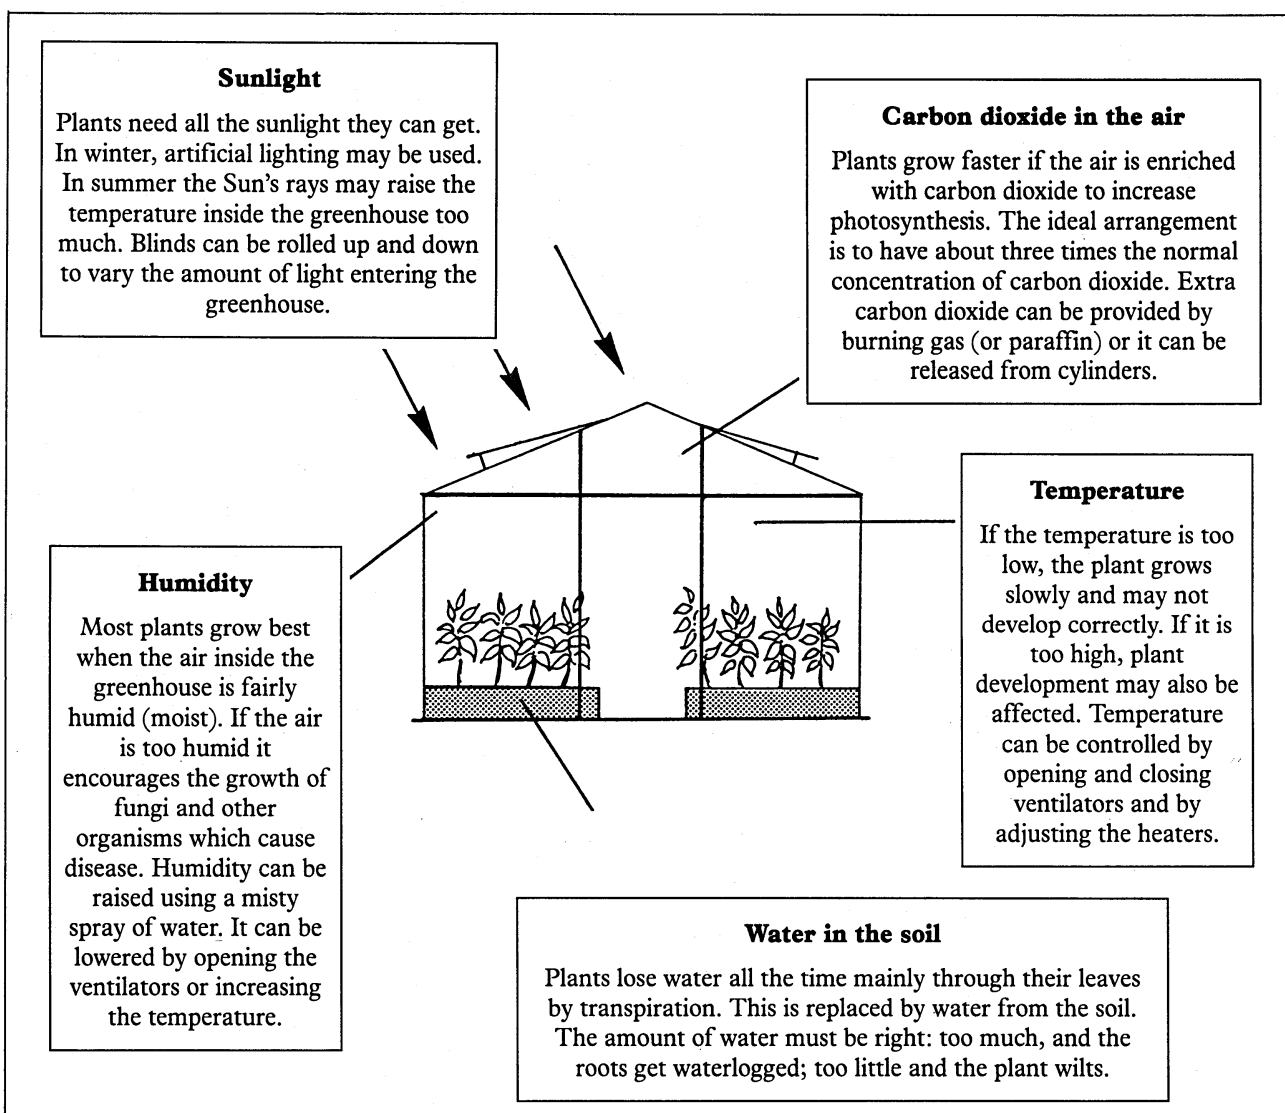
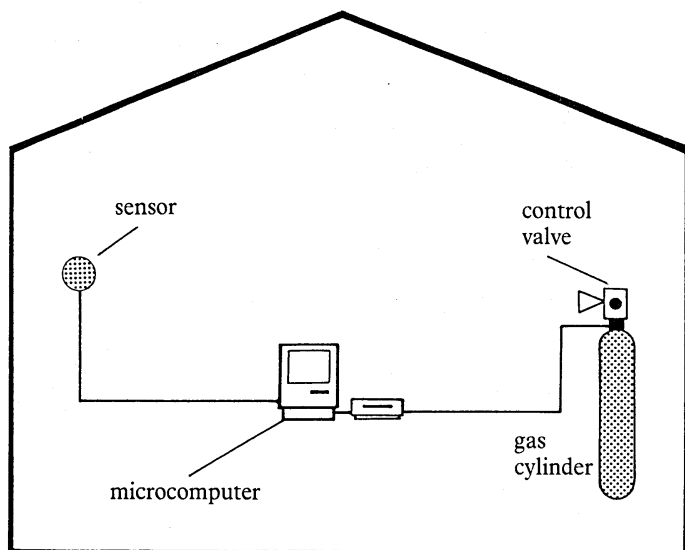

Figure 1 Controlling the conditions inside a greenhouse
Figure 5 Carbon dioxide control by IT
Figure 5 has been simplified in a number of ways. Carbon dioxide is not usually supplied from a cylinder. The commonest method of enrichment is to burn natural gas, LPG or paraffin in special burners in the greenhouse. The pure gas is more usually delivered from bulk liquid storage tanks than from cylinders.
Big market growers use greenhouses to produce crops such as tomatoes and cucumbers throughout the year. They need to get the conditions right for growth and development. It is particularly important to control the conditions shown in Figure 1.
- 1 Look at Figure 1. Four of the conditions listed can affect the rate at which plants lose water by transpiration. Which are the four?
- Other factors have to be controlled as well as the conditions shown in Figure 1. These may include the amounts of minerals in the soil and the pH of the soil.
Let's take the carbon dioxide concentration as an example (see Figure 5). Here are the steps involved in an automatic adjustment to the amount of carbon dioxide in greenhouse air. The steps are **not** in the correct order.
- 5 Now make a large copy of Figure 5. Write the steps involved in controlling the carbon dioxide concentration onto your diagram.
- 6 Now choose one of the other conditions shown in Figure 1. What sort of sensor could be used to detect changes in the condition and how could the sensor be connected to the computer? If the measurements show that the condition needs to be altered, how could this be done? Draw a diagram similar to Figure 5 to show the way in which your control system would work.